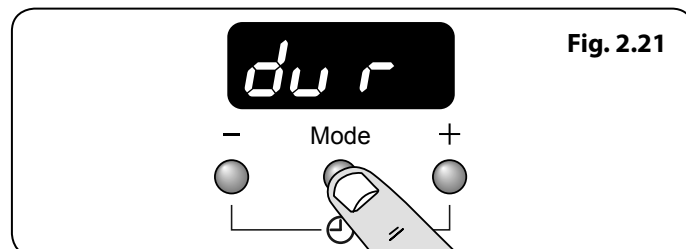

Fig. 2.21
1. Press the mode [Mode] button until the display flashes 'dur' (**Fig. 2.21**). Then set the 'cook period' using the [+] or [-] buttons.